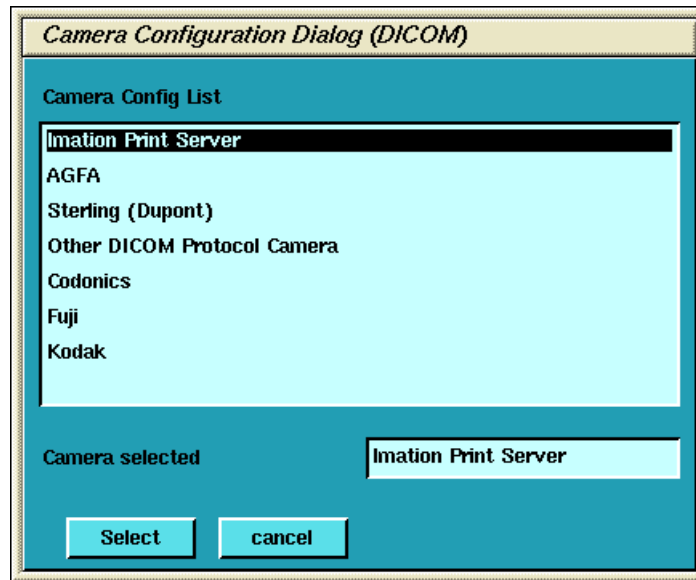

Figure 3-6 Camera Model Dialog (DICOM)
- a.) A list of camera models appears (Figure 3-6). Select the appropriate model from the list and click SELECT. Clicking SELECT presets all the parameters to that models except the Network parameters.